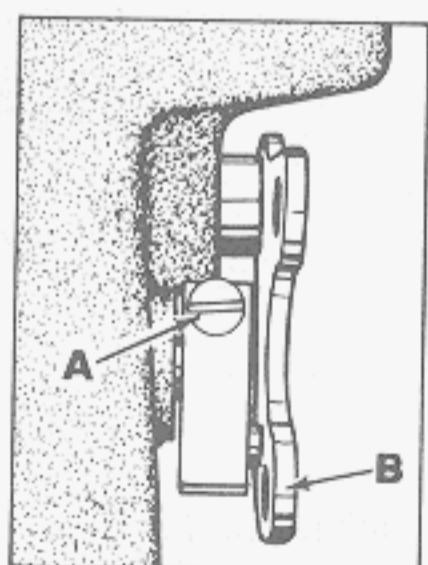
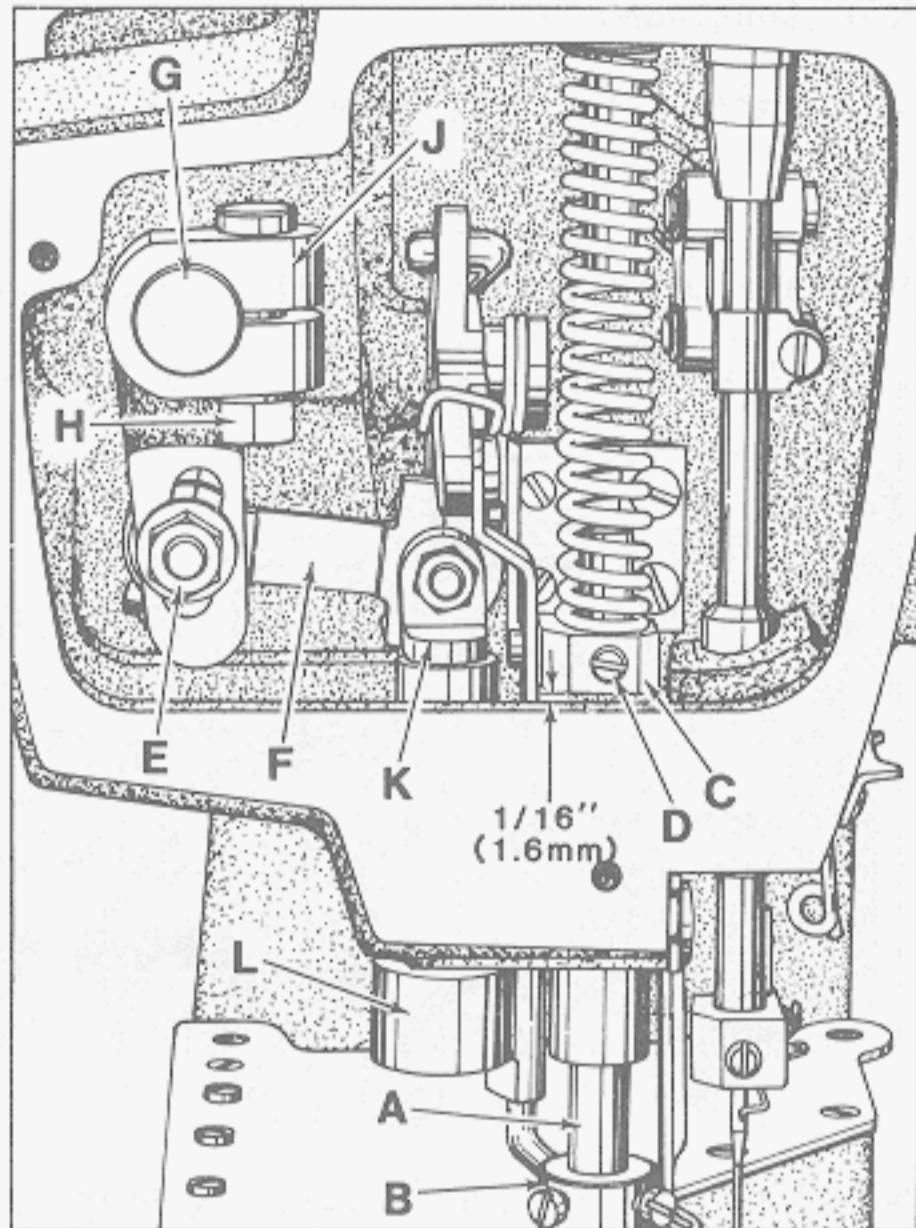
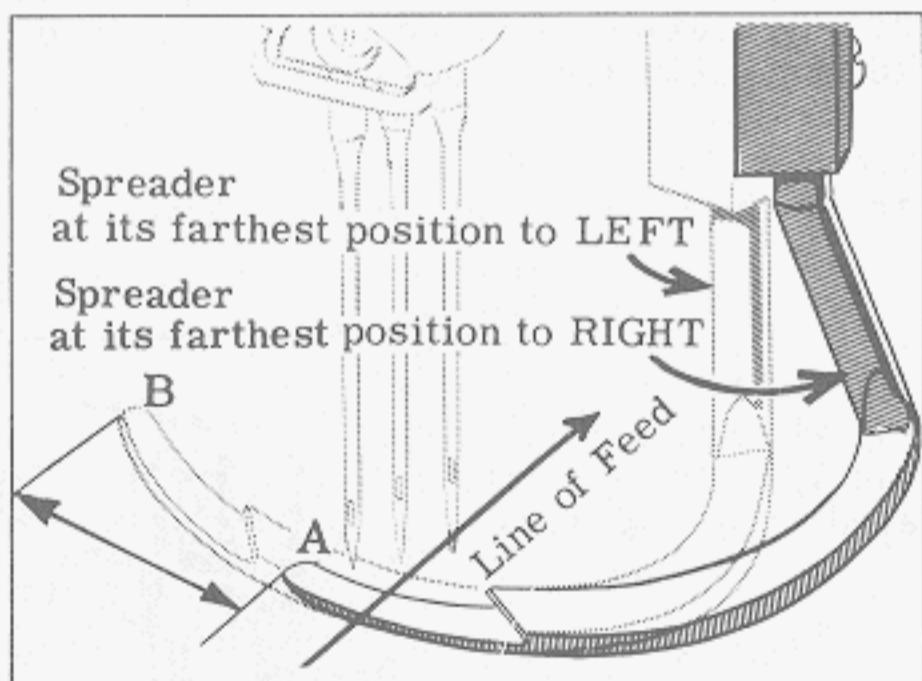

Fig. 13
Fig. 14
Fig. 15
If adjustment is needed, loosen tension release lever screw (A, Fig. 13), located at the back of the machine and move tension disc separator as required. Retighten screw. After adjustment there should be no binding at any point.
Height of presser bar (A, Fig. 14) is correct when presser foot can be removed by loosening stop collar (B) and depressing foot lifter lever (B, Fig. 13). There should be approximately $1/16$ inch (1.6mm) clearance between lower surface of presser bar connection and guide (C, Fig. 14) and bottom surface of head opening in bed casting when foot lifter lever is released and presser foot lying flat on throat plate with feed dog below throat plate.
Adjustment can be made by turning handwheel to position needle bar at bottom of stroke. Loosen screw (D, Fig. 14) and while holding presser foot down on throat plate, position presser bar connection and guide as required to attain specified clearance and retighten screw.
Set presser bar stop collar (B, Fig. 14) so presser foot does not contact spreader when raised.
Set the arc travel of the spreader point (A) to point (B) figure 15 as listed below, by loosening nut (E, Fig. 14) and moving the connecting link (F) up or down to the desired amount of arc travel.